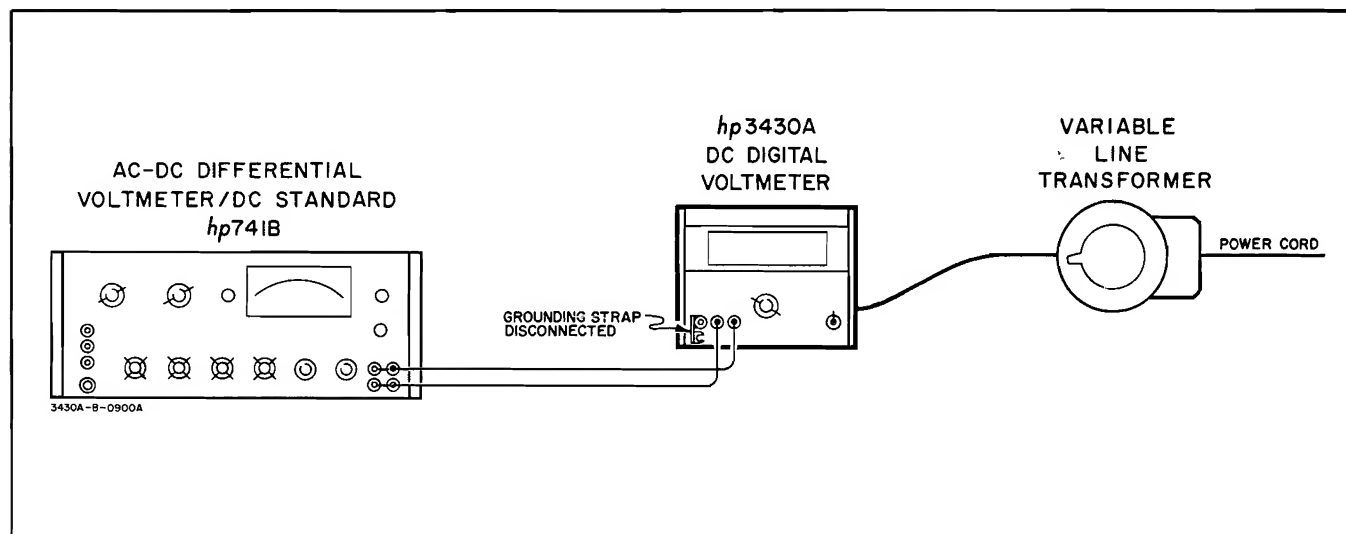

Figure 5-1. Accuracy Check
- g. Connect the standard as shown in Figure 5-1, and set the dc standard output to 1.000 volts. The 3430A indication should be between 0.99 V and 1.01 V.